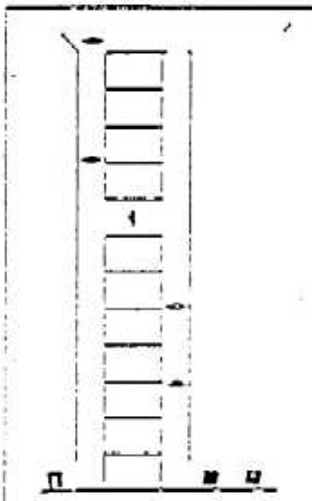

FIGURE 8
6. To facilitate a quicker discharge of smoke, incorporate both stairwells, utilizing one stairwell to provide fresh replacement air, and the other stairwell to serve as a "chimney" to remove smoke and fire gases. (See Figure 8.)